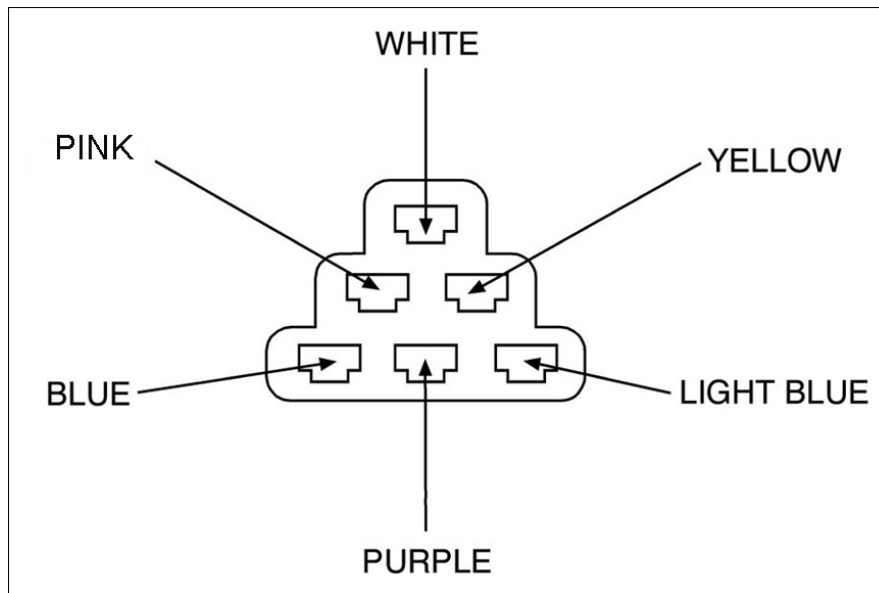

Figure 9.2 Chevrolet Turn Signal Connection (Factory Style Connector)
- 9.1 In the parts box, there is a special turn signal switch connector housing, along with 6 terminals for connecting the harness to the factory signal switch. See **Figure 9.2** for wire pinout diagram, and **Table 9.3** for the wire # and circuit designation.